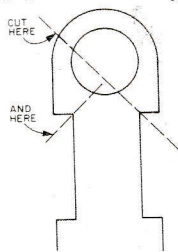

FIGURE 7
- () Cut off the terminals of S1 as shown in Fig. 7 with small dikes and file the rough edges smooth.